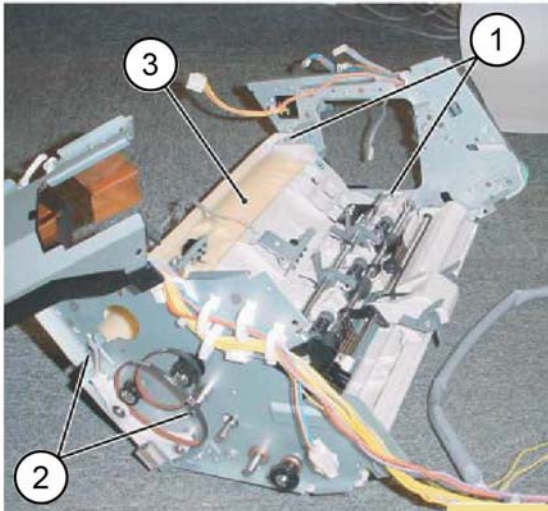

Figure 5 Entrance lower chute assembly removal
7. Remove the entrance lower chute assembly, Figure 5:
- a. Remove two screws (1).
- b. Loosen two screws (2).
- c. Remove the entrance lower chute assembly (3).